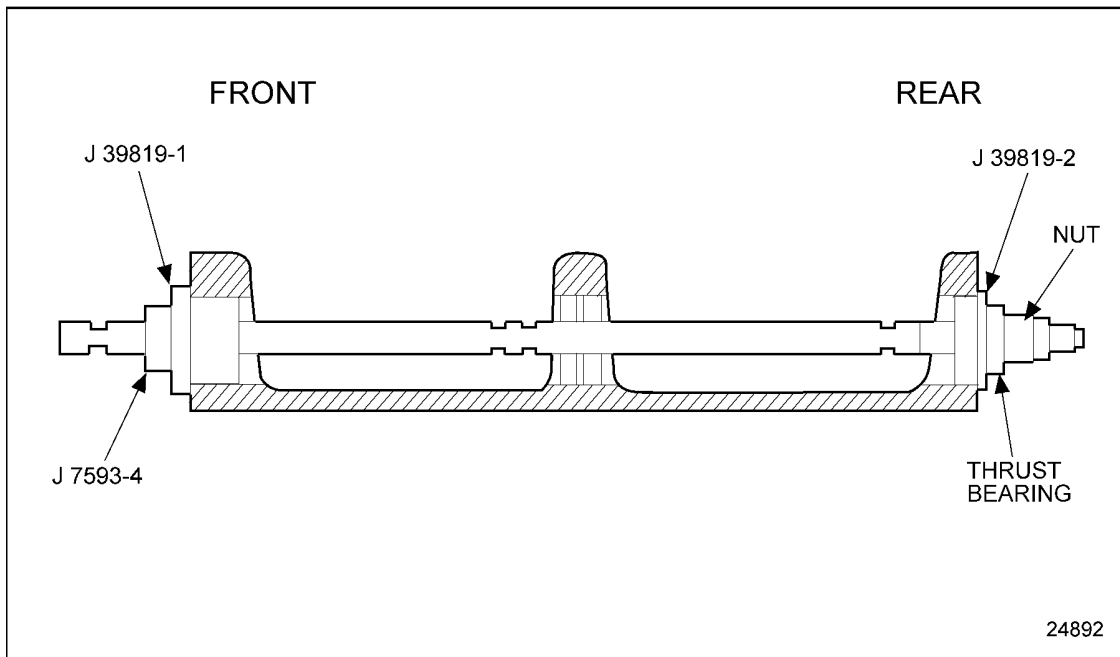

Figure 1-374 Remove Rear Bushings
1. Place bushing installer J 39819-1 and C-washer J 7593-4 onto the end of shaft 39819-5 and insert the shaft completely through the cradle from the front. See Figure 1-374.